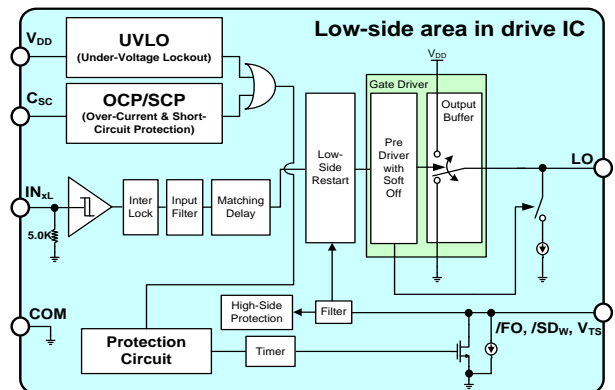
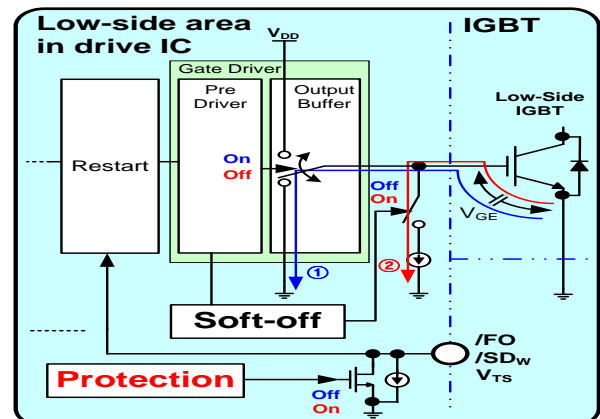

Figure 19. Internal Block Diagram of Gate Drive IC
Figure 20. Operating Sequence of Soft Turn-Off
An internal block diagram of the low-side and operation sequence of the soft turn-off functions are shown in Figure 19 and Figure 20. This function operates by two internal protection functions (UVLO and OCP/SCP). When the IGBT is turned off in normal conditions, gate drive IC turns off the IGBT immediately by turn-off gate signal (IN_{XL}) via gate driver block. Pre-driver turn-on output buffer of gate driver block, path ①. When the IGBT is turned off by a protection function, the gate driver is disabled by the protection function signal via output of protection circuit (disable output buffer, high-Z) and output of the protection circuit turn-on switch of the soft-off function. V_{GE} (IGBT gate-emitter voltage) is discharged slowly via circuit of soft-off (path ②).